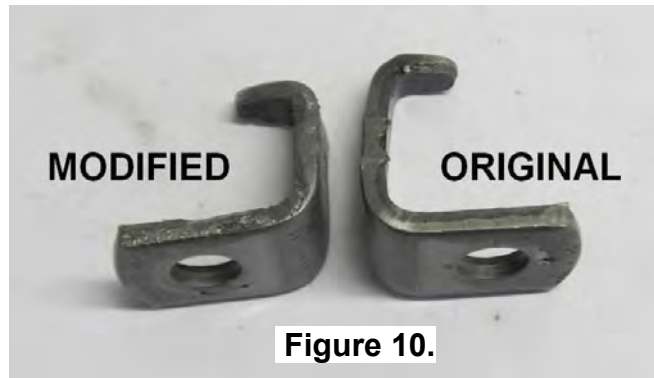

Figure 10.
- Finish the tab width and tail length as necessary to ensure it does not come in contact with the bearing or seal housing. The modified locking tab should look as per Fig. 10.